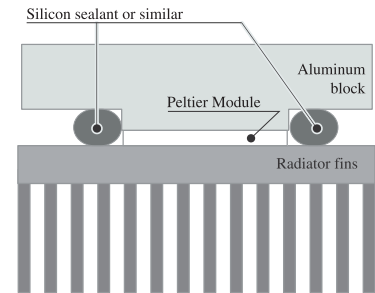

FIGURE 7. HUMIDITY PROTECTION FOR THE PELTIER MODULE PERIMETER
- 11) As a protection against humidity, seal the perimeter of the Peltier Module with a silicon sealant or similar and allow to dry for the requisite time. (figure 7)